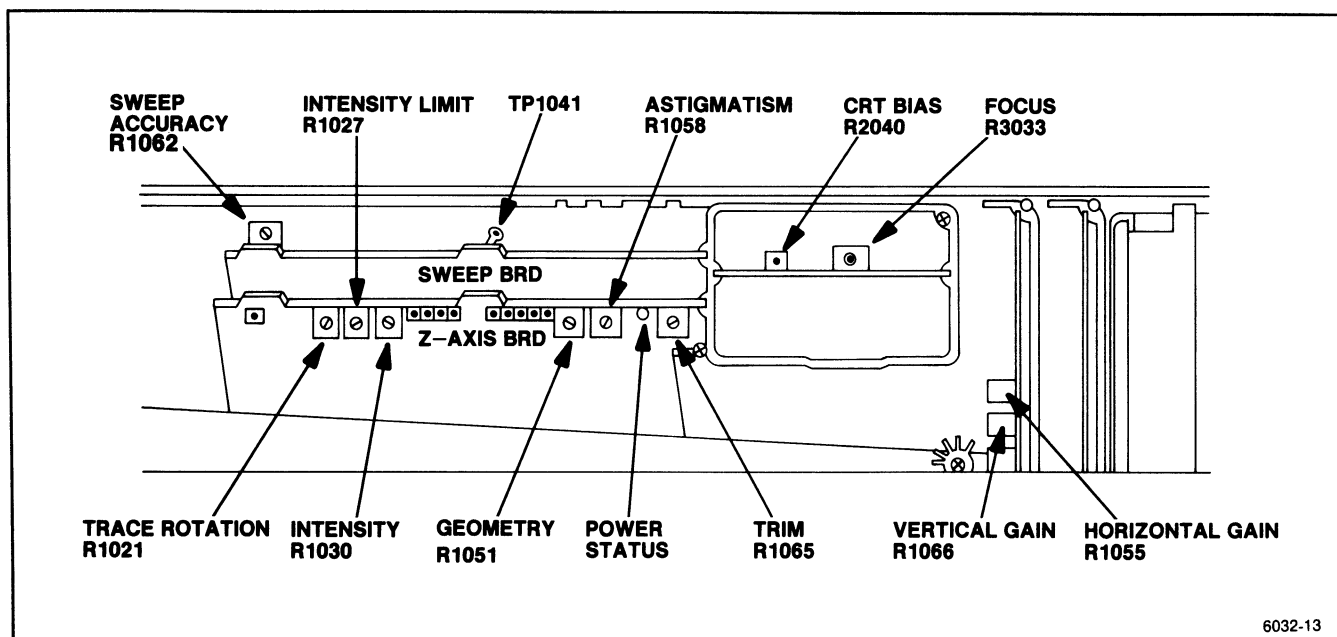
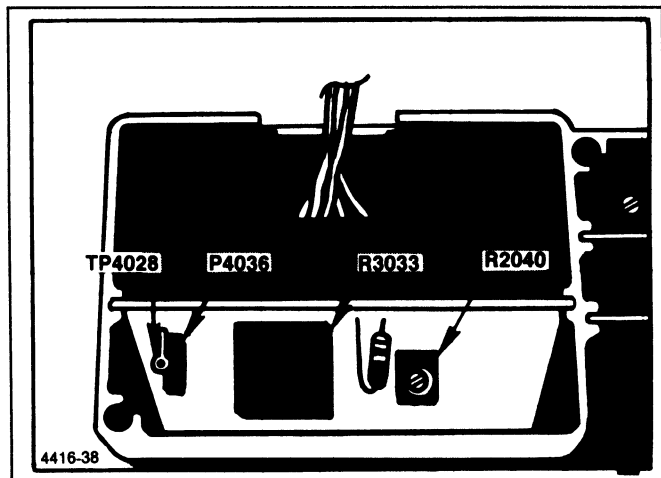

Figure 5-2. Crt display adjustment and test point locations.
Figure 5-3. Adjustment and test point locations on High Voltage module.
b. Remove the cover over the Z-Axis and Sweep boards. Set the Intensity Limit R1027, on the Z-Axis board (Figure 5-2) fully counterclockwise and Crt Bias R2040, on the High Voltage board (Figure 5-3) fully clockwise.
(2) Turn the INTENSITY clockwise until a crt beam dot appears on screen.
(3) Focus the dot by adjusting R3033 on the High Voltage board (Figure 5-3) for the smallest round dot.
(4) Set the INTENSITY for a collector voltage 5.5 V higher than the voltage noted in part d, subpart 1.
(5) Use the non-metallic screwdriver to adjust Crt Bias, R2040, counterclockwise until the crt beam is visible, then clockwise until the beam dot just extinguishes, with the screen shaded. (If no dot appears, with the adjustment fully counterclockwise, this will be the bias setting.)
(6) Turn the INTENSITY clockwise until a dot is visible then defocus the dot with the Focus adjustment, R3033. Adjust Astigmatism R1058 (Figure 5-2) for a round dot then refocus with R3033 for the smallest and sharpest dot.
(7) Turn the INTENSITY counterclockwise until the dot just disappears, and again measure the collector voltage at Q4058 or Q4059. Voltage should equal or exceed the voltage set in part d, subpart 4. If the voltage is less, repeat the procedure for setting Crt bias.
(1) Switch POWER off, then remove P4036 (Figure 5-3) on the High Voltage board. Turn INTENSITY fully clockwise, MANUAL SCAN fully counterclockwise, and ensure that the TIME/DIV is in the MNL position. Set the Intensity Limit R1027, on the Z-Axis board, (Figure 5-2) fully clockwise.
(2) Connect the voltmeter between TP4028 (Figure 5-3) and the ground lug on the crt shield. Switch POWER back on. After the instrument initializes, activate 2 dB/DIV and switch Digital Storage off.
(3) Adjust Intensity Limit R1027 (Figure 5-2) for a voltage reading of 0.9 V at TP4028.
(4) Switch POWER off and re-install the jumper P4036 on the High Voltage board. Turn POWER on and adjust the INTENSITY for normal viewing.
g. Activate ZERO SPAN and adjust REFERENCE LEVEL until the trace is approximately mid-screen; then adjust the Trace Rotation R1021 (Figure 5-2) so the trace is aligned with the graticule lines.
h. Activate VIEW A and VIEW B then use the PEAK/AVERAGE cursor, positioned at the top then bottom of the screen, as a reference line to adjust Geometry R1051 (Figure 5-2) for the straightest trace at top and bottom of the screen.
j. Adjust Delta Intensity R1030 (Figure 5-2) so the brightness of the readout characters is slightly higher than the trace. Readout characters should be just visible after the trace has disappeared. This ratio provides
c. Adjust Vert Gain, R1066 (Figure 5-2) for a full screen display.
e. Set TIME/DIV to MNL. Monitor TP2 on the Sweep board (Figure 5-2) with a voltmeter (Digital Multimeter). Set the MANUAL SCAN control for 0.0 V reading on the voltmeter (TP2). Set the horizontal POSITION control to center the CRT beam (dot).
g. Adjust Horiz Gain, R1055 (Figure 5-2) to position the crt beam to the right graticule edge (10th graticule line).